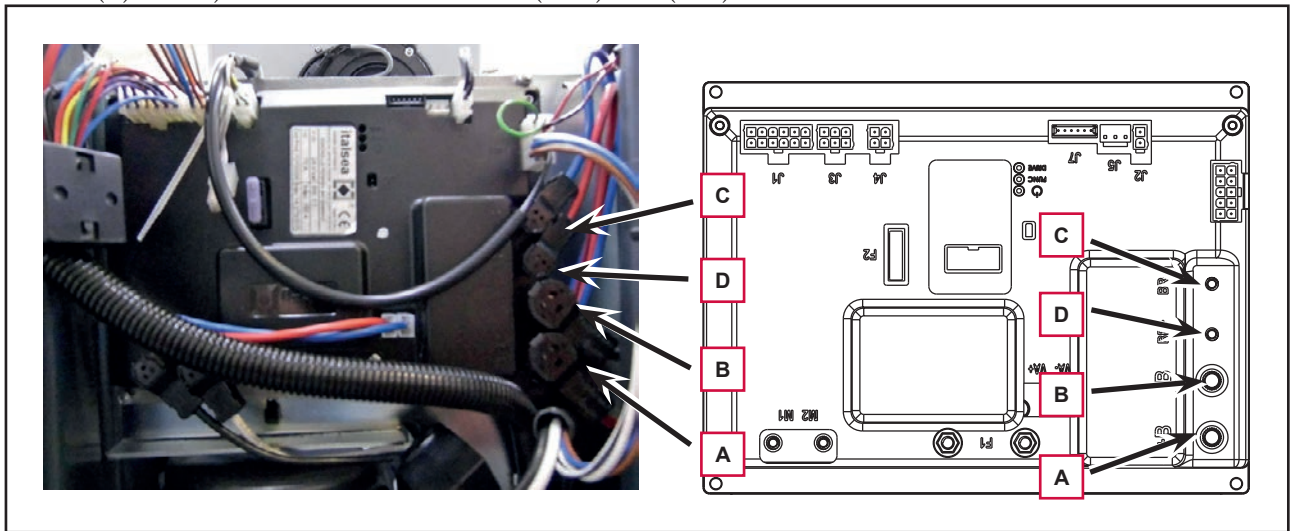

Figure 9
6. Disconnect the following connections (Figure 9):
- (A) and (B) Electronic board power supply connection (B+) and (B-).
- (C) and (D) Brush motor connection (BR+) and (BR-).